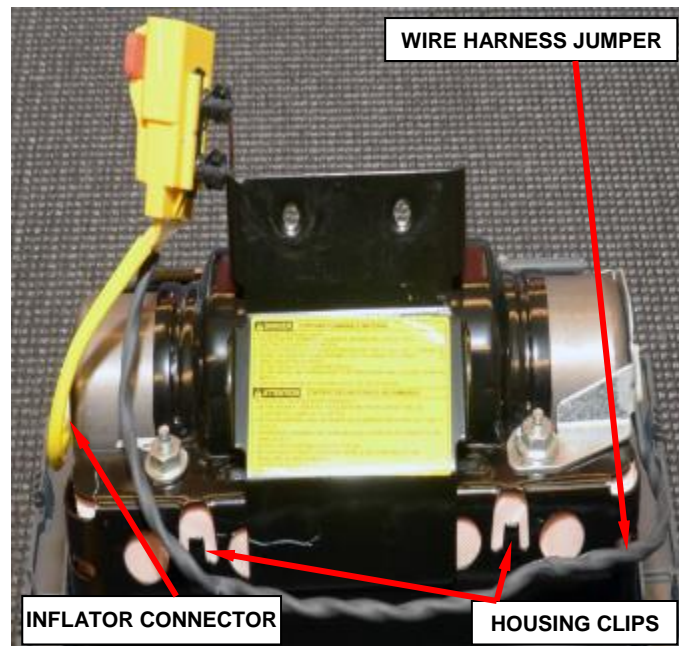

Figure 55 – Wire Harness Jumper
- b. Disengage the wire harness jumper from the housing clips in two places (Figure 55).
- c. Disconnect the single yellow wire inflator connector from the end of the inflator using pliers (Figure 55).
- k. Connect the single yellow inflator connector to the end of the passenger airbag inflator (Figure 55).
- l. Engage the wire jumper to the housing in two places (Figure 55).